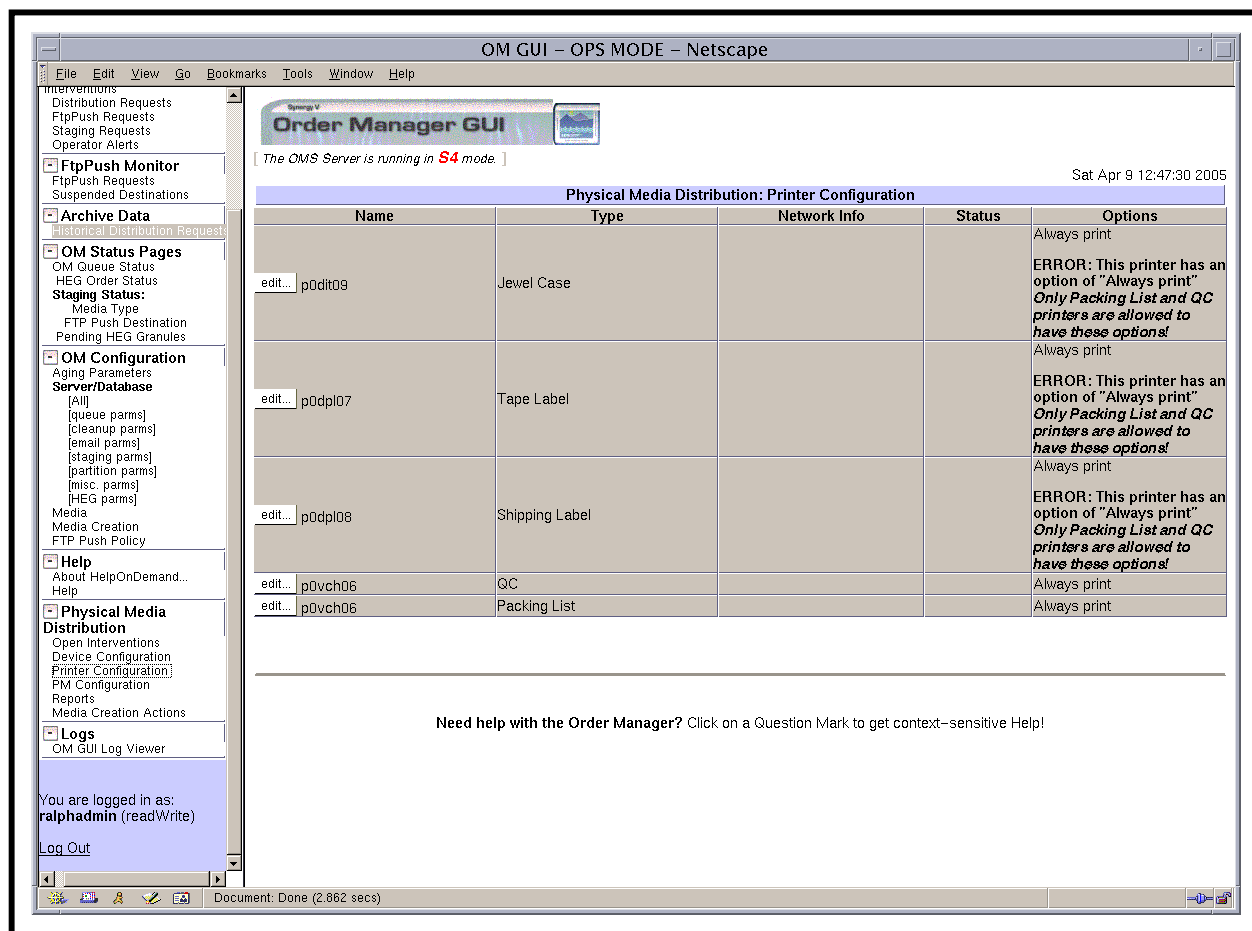

Figure 84. PMD Printer Configuration Page
For Synergy V, the **OM GUI** handles the configuration of printers used in physical media creation. The printer configurations can be “edited.” The **PMD Printer Configuration** page (Figure 84) displays the following types of information on all the currently configured printers:
- The **PMD Printer Configuration** page (Figure 84) is displayed.